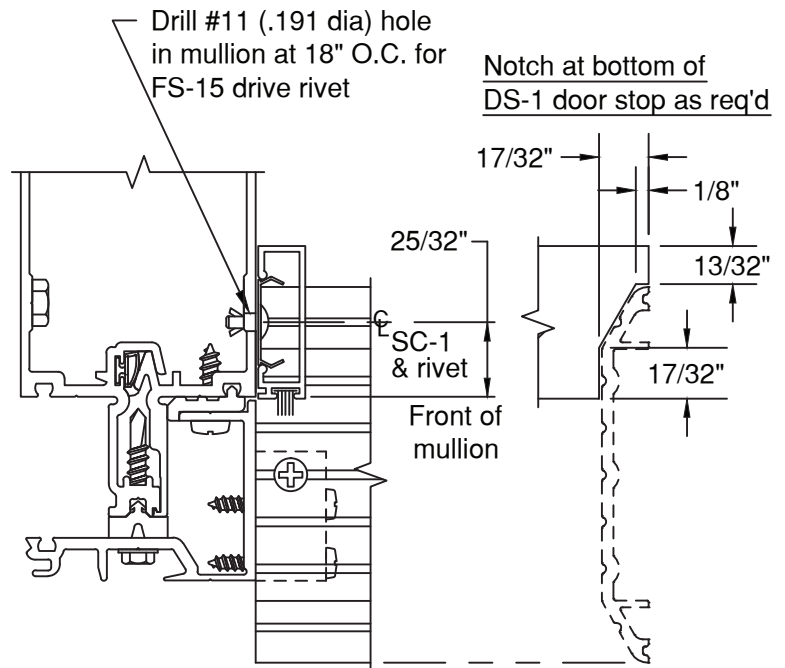

FIGURE 44
C.3.6 Drill #11 (.191 dia.) holes in curtain wall mullions for FS-15 drive rivets. Install door stops onto mullion with SC-1 clips at 18" O.C. **SEE FIGURE 44, page 35.** Vertical stops run through.